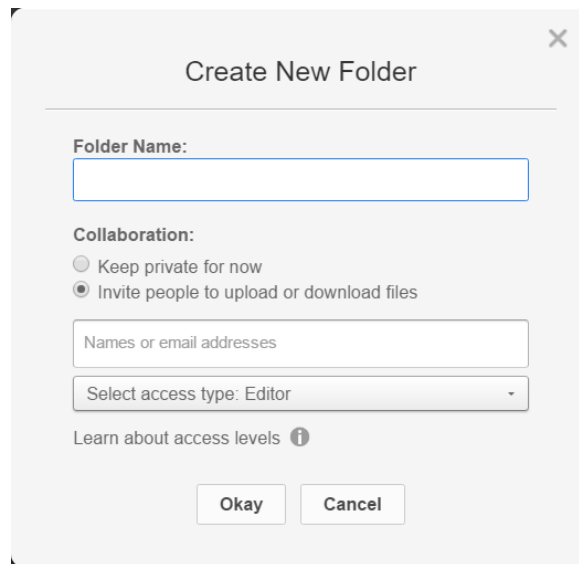

Figure 5: New Folder pop-up window
6.6.2. In the pop-up window that appears, enter the folder name. To create a folder where you'll work with others, pick Invite People to Upload or Download Files (see Figure 5). Otherwise, choose to keep it private.